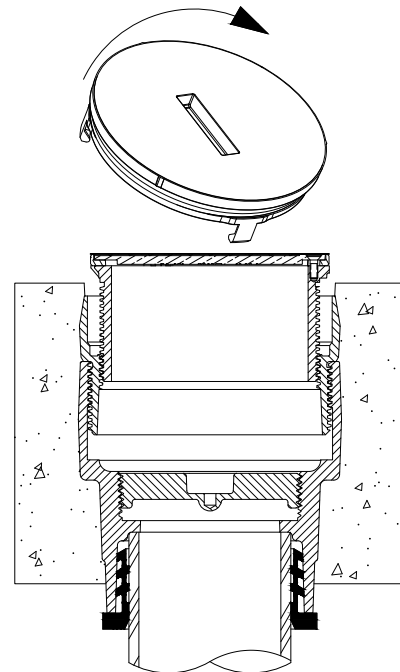

Fig. 8
- Remove rough-in cover. See Fig. 8